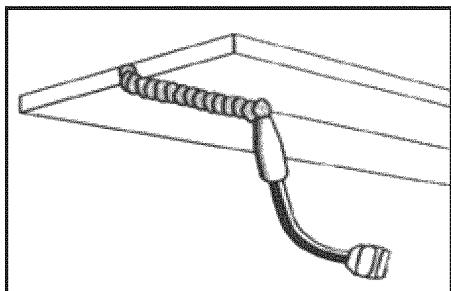

Fig. 13c
- **OVERHEAD POSITION** Is the most difficult welding position. Angle A (see HOLDING THE TORCH) should be maintained at 60 degrees. Maintaining this angle will reduce the chances of molten metal falling into the nozzle. Angle B should be held at zero degrees so that the wire is aiming directly into the weld joint. If you experience excessive dripping of the weld puddle, select a lower heat setting. Also, the weave bead tends to work better than the stringer. (Fig. 13c)